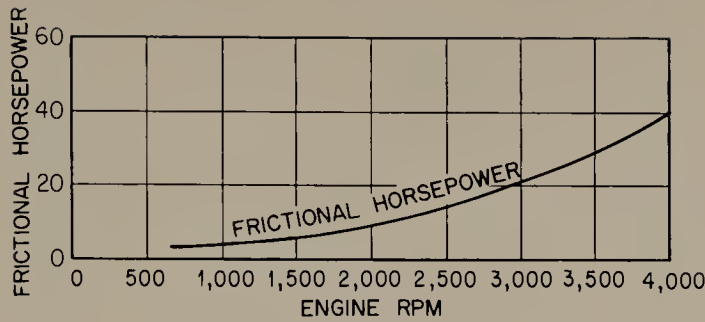

FIGURE 5.10 Friction-horsepower curve, showing the relationship between fhp and engine speed.
5.14 Friction Horsepower. Friction losses in an engine are sometimes referred to in terms of fhp (friction horsepower). This expression means the amount of horsepower used up in the engine to overcome friction. Friction horsepower is determined by driving the engine with an electric motor to measure the horsepower required to drive it. During this test, the engine is at operating temperature, but there is no fuel in the carburetor, and the throttle is held wide open. At low speed, friction is relatively low. But as engine speed increases, fhp goes up rapidly. The graph (Fig. 5.10) shows fhp in a typical automobile engine at different speeds. At 1,000 rpm, the fhp is only about
One of the major causes of frictional loss (or fhp) in an engine is piston-ring friction. Under some conditions, the friction of the rings on the cylinder walls accounts for 75 percent of all friction losses in the engine. For example, Fig. 5.10 shows an fhp of 40 hp at 4,000 rpm. It could be that 75 percent, or 30 hp, is due to friction between the rings and cylinder walls. Understanding this fact makes us more fully aware of the difficult job the rings have in the engine. It also points up one advantage of the short-stroke, over-square engine. With a short stroke, the piston rings do not have as far to slide on the cylinder walls, and thus ring friction is reduced. This lowers frictional losses in the engine.
NOTE: The curves (Figs. 5.10 to 5.13) are for one particular engine only. Different engines have different torque, bhp, and fhp curves. Peaks may be at higher or lower speeds, and the relationships may not be as indicated in the curves shown.